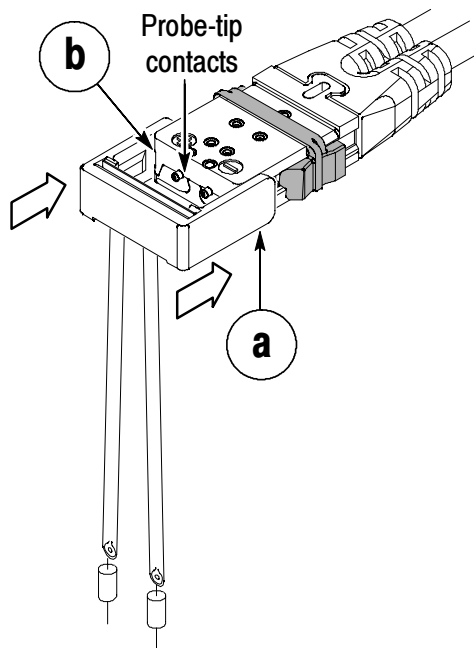

Figure 5: Installing a Tip-Clip Assembly
- a. Grasp the sides of the Tip-Clip Assembly and slide it toward the back of the probe tip. You will feel the Tip-Clip Assembly click past a ridge on the probe tip when it is properly seated. See Figure 5.